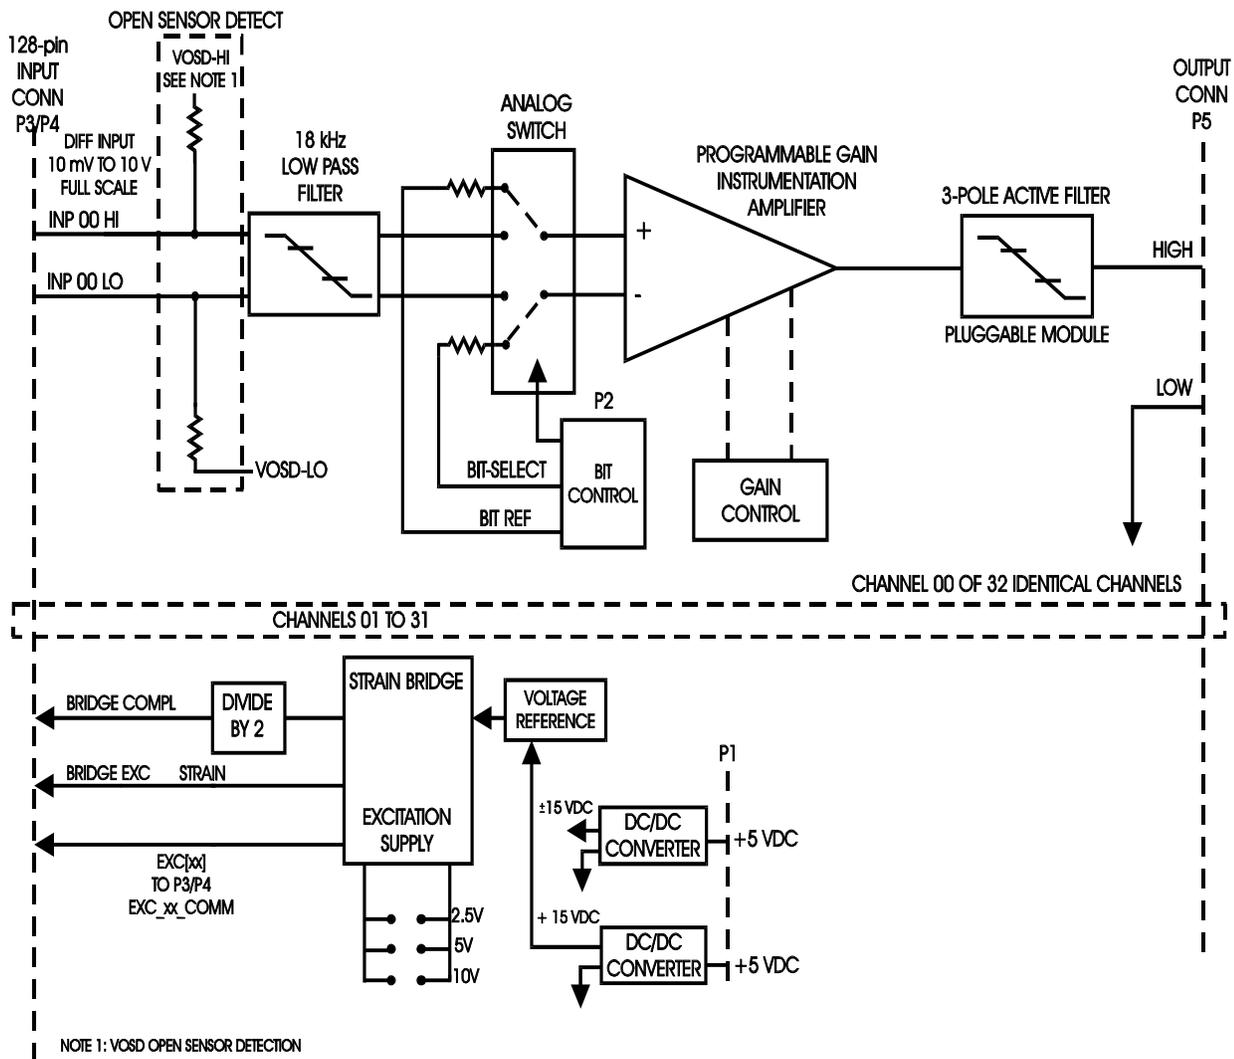

Figure 1 VMIVME-3419 Functional Block Diagram
- Figure 1 VMIVME-3419 Functional Block Diagram 14
The VMIVME-3419 board (Figure 1 on page 14) is a 32-channel, differential, low-level, analog input signal conditioner for the VMEbus. Channel voltage gain is individually selectable as x1, x10, x100, or x1,000, and produces full-scale input ranges from ± 10 mV to ± 10 V. The output from each channel is a single-ended voltage source with a maximum full-scale range of ± 10 V.
The VMIVME-3419 board contains the following principal hardware functions, as shown in Figure 1 on page 14: